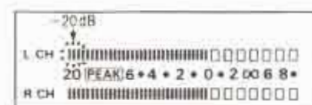

Fig. 20
- Adjust VR302 so that the -20dB segment of the FL meter lights up with the input level of -20±1dB below the standard input level (L-CH ONLY) (See fig. 20).